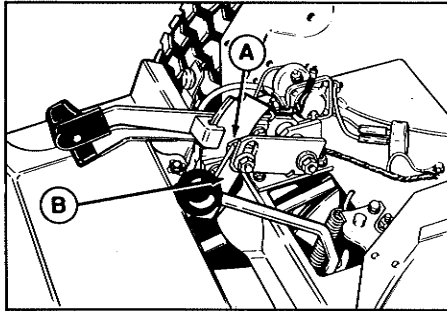

Figure 25. Speed Control Lever
4. Loosen the shoulder bolt (A, figure 25) so it is free to slide in the slot.
- Place your finger on top of the bar (B, figure 25) and push the bar down until it stops.